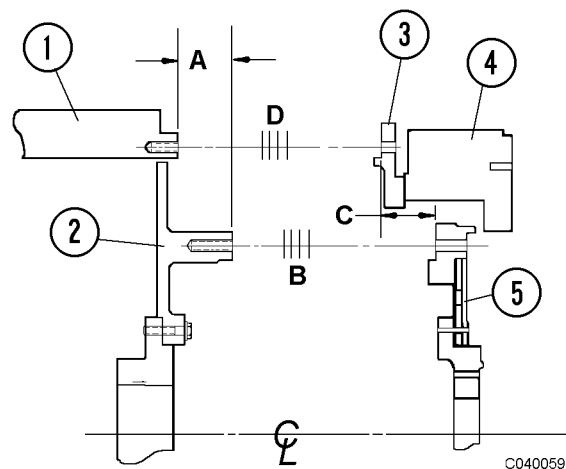

FIGURE 4-4. SHIM LOCATION
3. Refer to Figure 4-4. Move the engine crankshaft to the rear of its end travel.